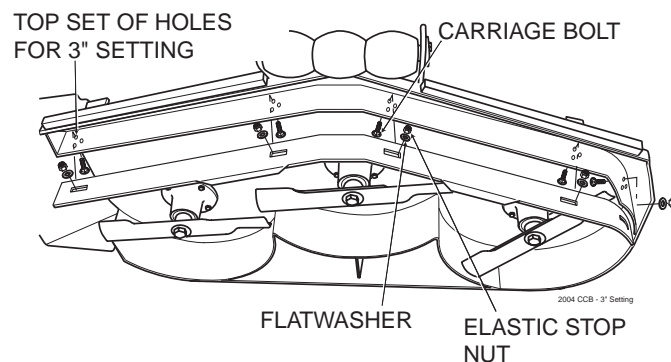

Figure 6-8. 3" Custom-Cut Baffle Position
- A. 3" Position - baffle is installed using the top set of holes on the front baffle welded inside the cutter deck. (See Figure 6.8). The Advantage cutter deck will deliver the best quality-of-cut in very tall, wiry, tough to cut grass.